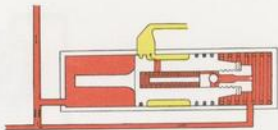

Fig. 6-49. Control valve, maximum pressure
Should the pump flow through the outlet be stopped, for example, because the front wheel turning is blocked, the pressure in the delivery line (1), will rise and the pressure difference between both ends of the control valve will be equalized. This will cause the spring to be moved to the left, the connection with the return channel to be closed and the pressure to rise even more. At about 75 kp/cm² (1066 psi) the spring pressure on the safety valve (6) is overcome, that is, the inner part of the control valve, and oil can then pass out to the return channel (4). See Fig. 6-49. The pressure on the right-hand side of the piston will then drop and the entire control valve will be moved to the right so that the connection with the return channel opens. When the pressure drops to its normal value, the safety valve closes and the control valve returns to its normal position.